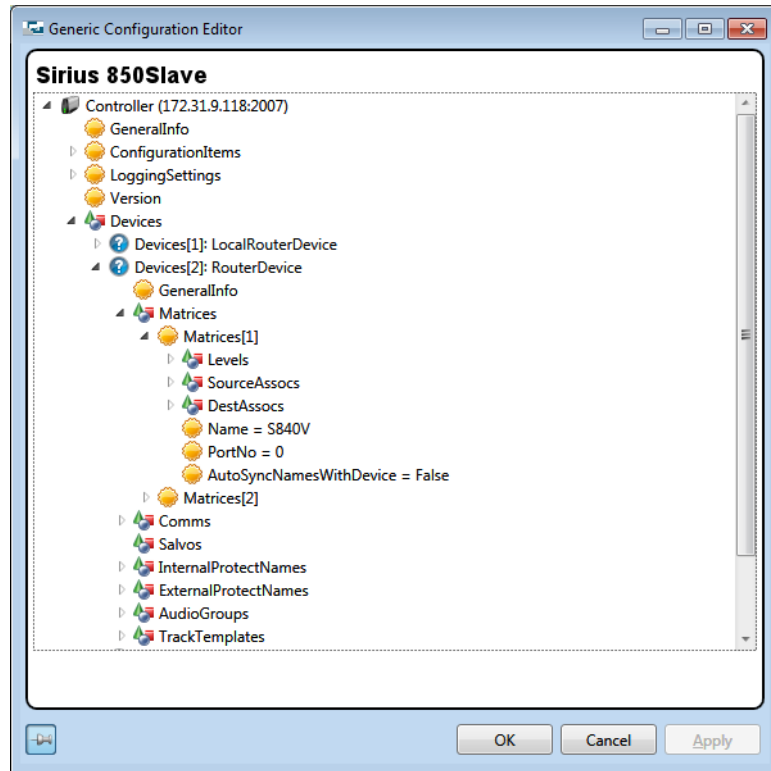

Fig 52. Generic Configuration Editor (Off-line)
The Generic Configuration Editor is used to edit a router control module in a logical tree structure format, see Fig 52. It can be used to edit or view the controller configuration. The Generic Configuration Editor is useful for grabbing DCCP elements for screen design.
2. Click on the **Edit Controller...** button to display the Generic Configuration Editor, Fig 52.
There are three types of controls used to build the configuration. Depending on the selection, the appropriate control displays at the bottom of the screen, see Table 16. and Fig 52.